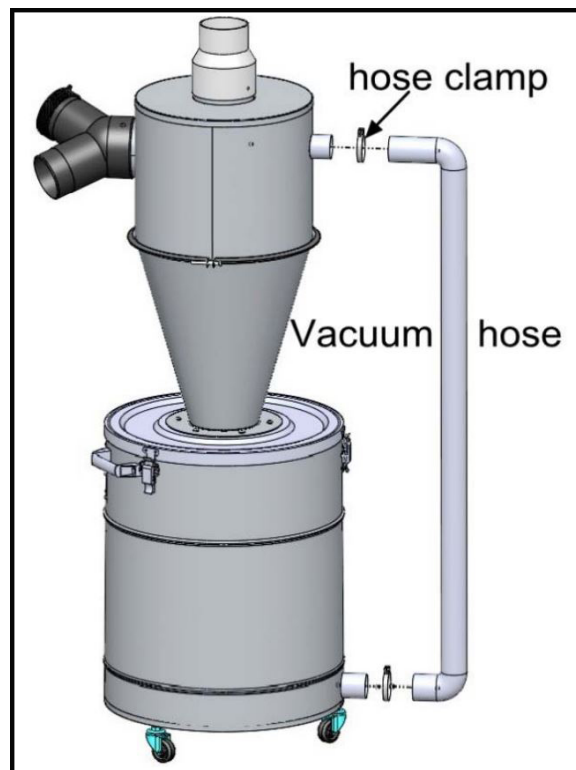

Figure 7
10. Place hose clamps over ends of vacuum hose, then attach one end of vacuum hose to intake barrel and other end to collection drum. Tighten clamps to secure hose. (See figure 7)